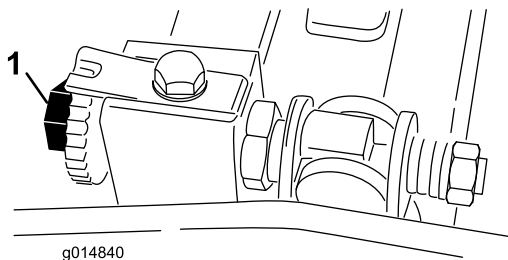

Figure 45
3. Rotate the reel so that a blade crosses the bedknife edge between the first and second bedknife screw heads on the right side of the cutting unit (Figure 45).
6. Turn the right bedbar adjusting screw until you feel light pressure (i.e. drag) on the shim by sliding it side-to-side (Figure 45).